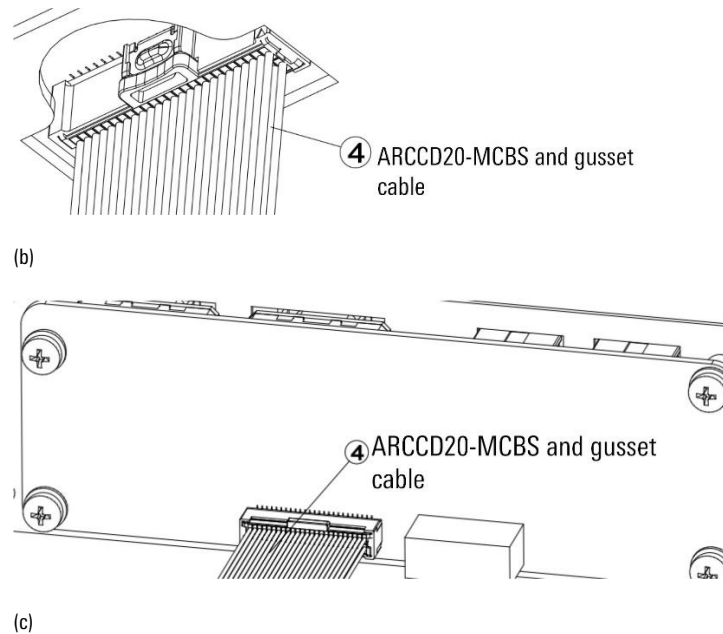

Figure 18-6 Installation of ARCCD20-MCBS and gusset cable
Step3. Connect one side of the ARCCD20-MCBS and gusset cable to the position of the arrow as shown in Figure 18-6, and the other side to the MCBS-IEB connector corresponding to J4.